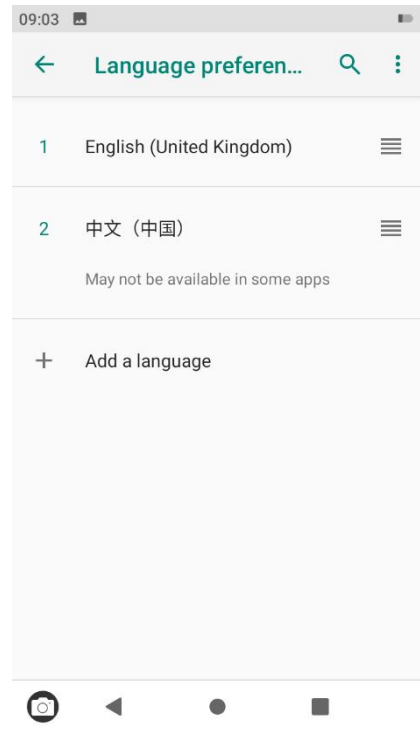

Figure 4.6.6.3
- Select a language from the list (Figure 4.6.6.4).